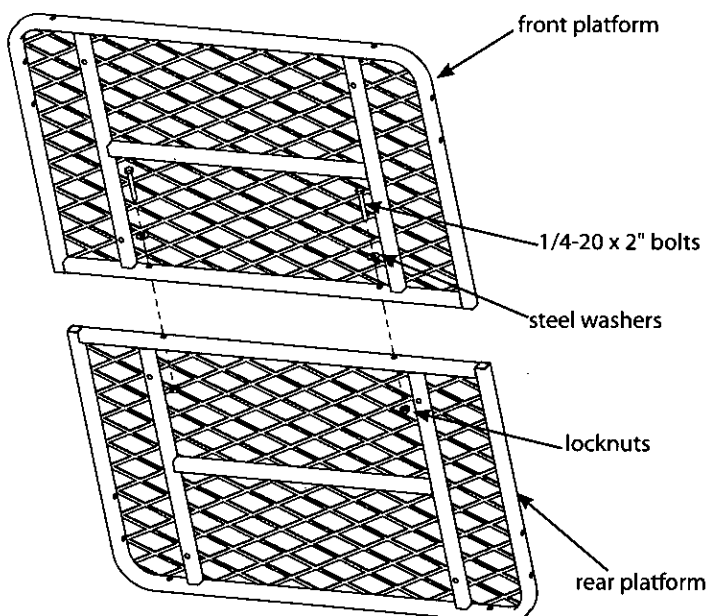

Figure 1
1. Attach the (2) platforms together using (2) provided 1/4-20 x 2" bolts, locknuts and steel washers. **SEE FIGURE 1. DO NOT tighten all nut and bolt assemblies completely!**